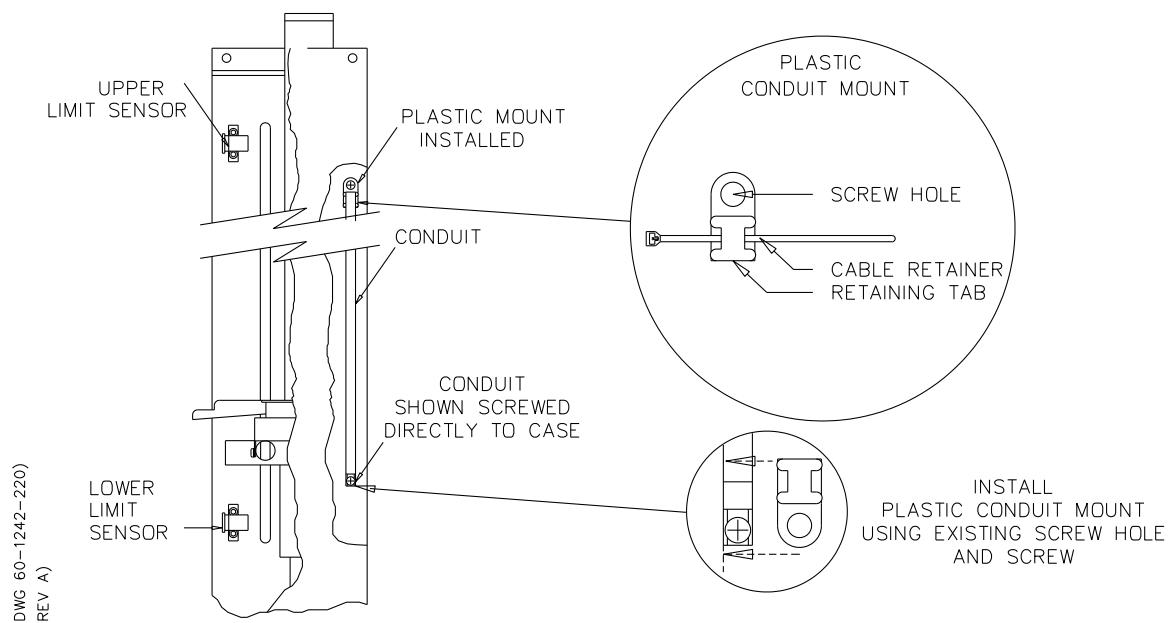

Figure 9-39 Installing the plastic mounts
- b. Then use the same screws and holes to install the mounts. Be sure the tab portion of the mount is facing away from the sensors, as shown in Figure 9-39, (the screw aperture is closest to the sensors).